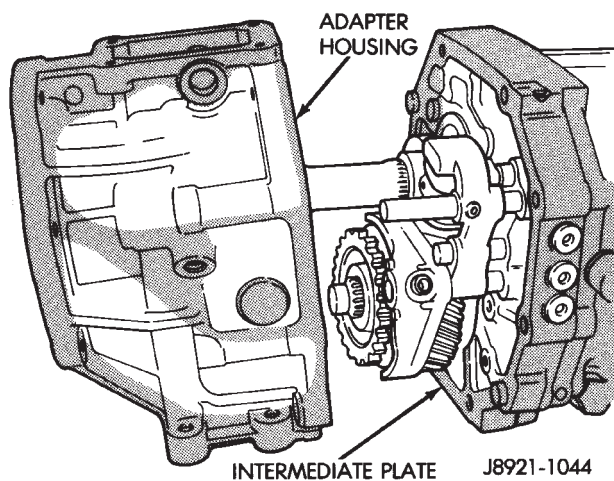

Fig. 29 Remove Adapter/Extension Housing
(17) Remove adapter/extension housing (Fig. 29).